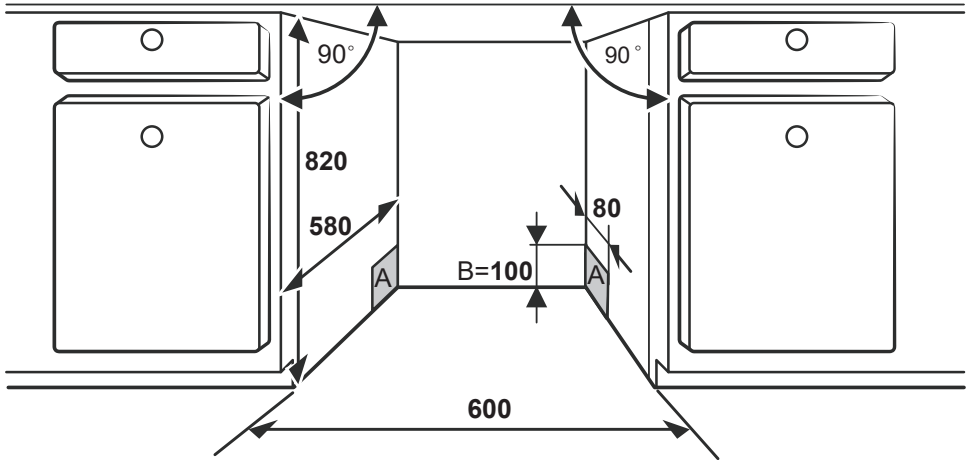

Figure 1
1. Choose a place near the sink to facilitate the installation of inlet and drain hoses (see figure 1).